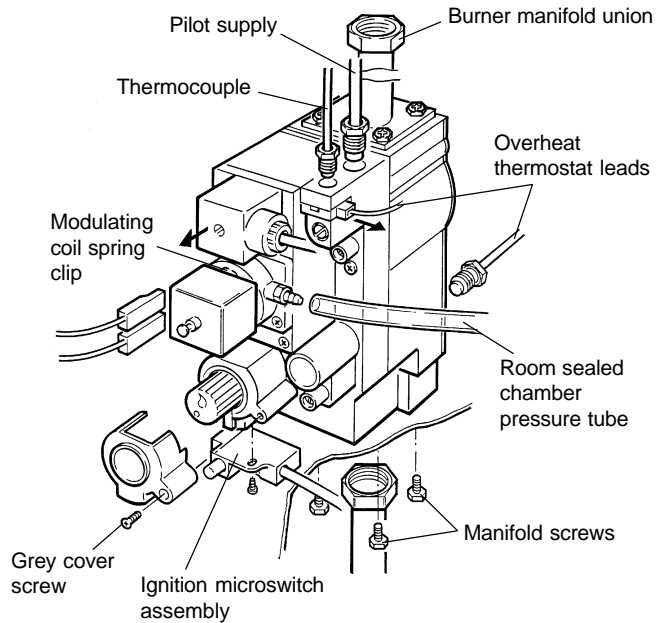

Fig. 23
8.10 GAS VALVE - Fig. 23
8.11 GAS VALVE MODULATING COIL - Refer to Fig. 23